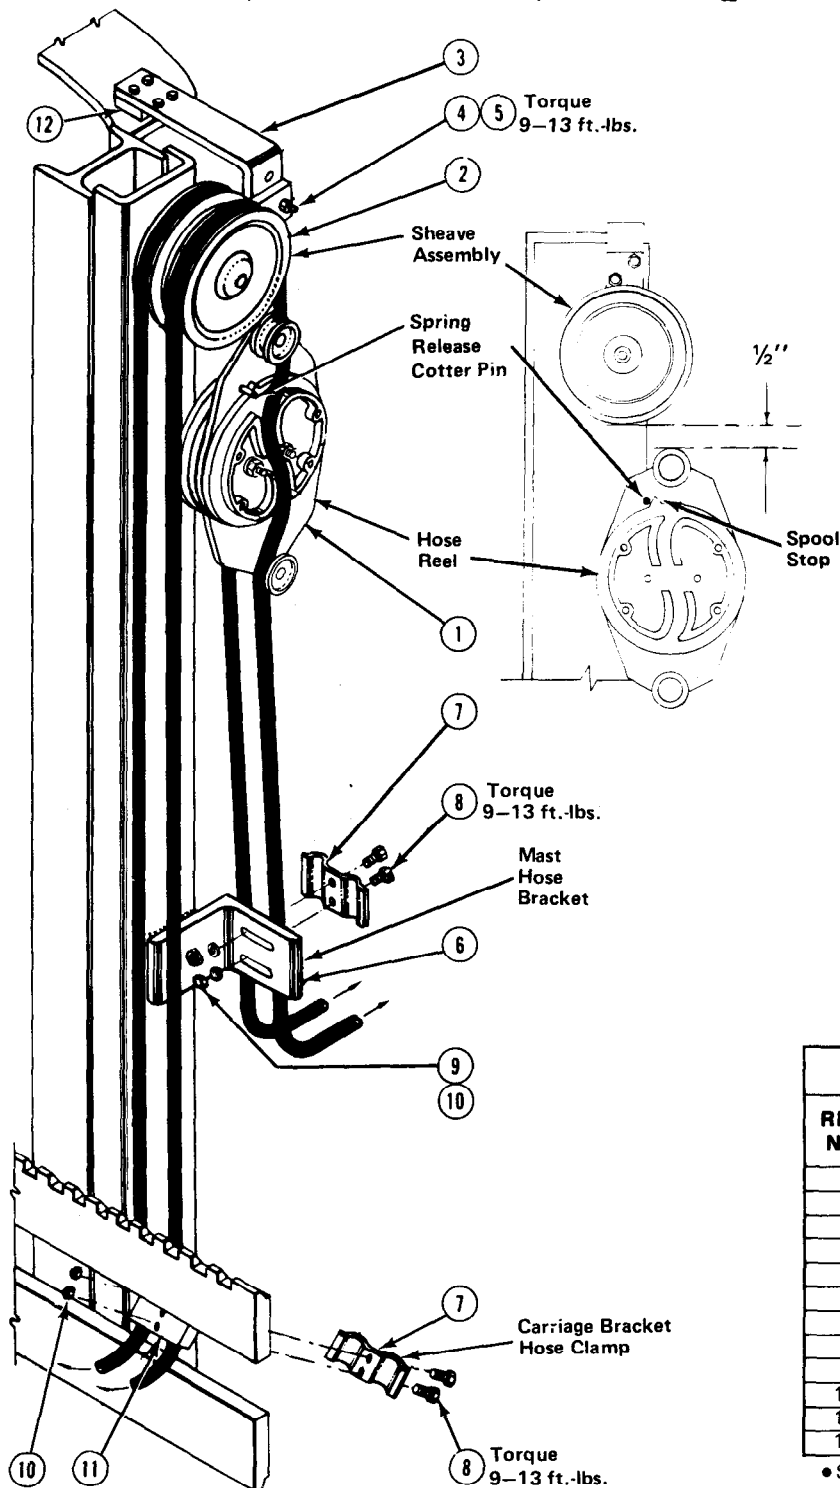

Fig. 6
- 8 Place the hose reel on the hoses. The spring release pin must be forward of spool stop. Position the top idler sheaves 1/2" below the sheave assembly. See figure 6.